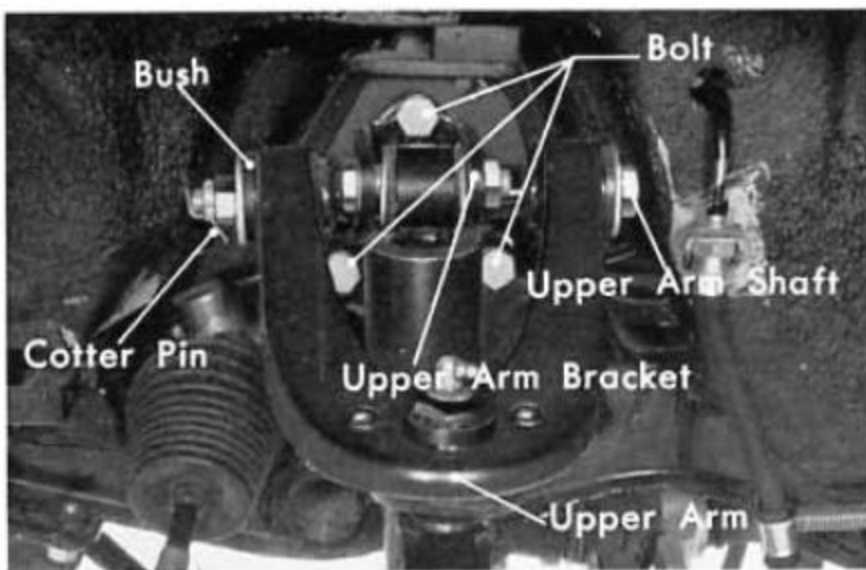

Fig. 15B-6
6. Assemble the upper arm bracket on the frame by tightening the bracket setting bolts (Fig. 15B-6).